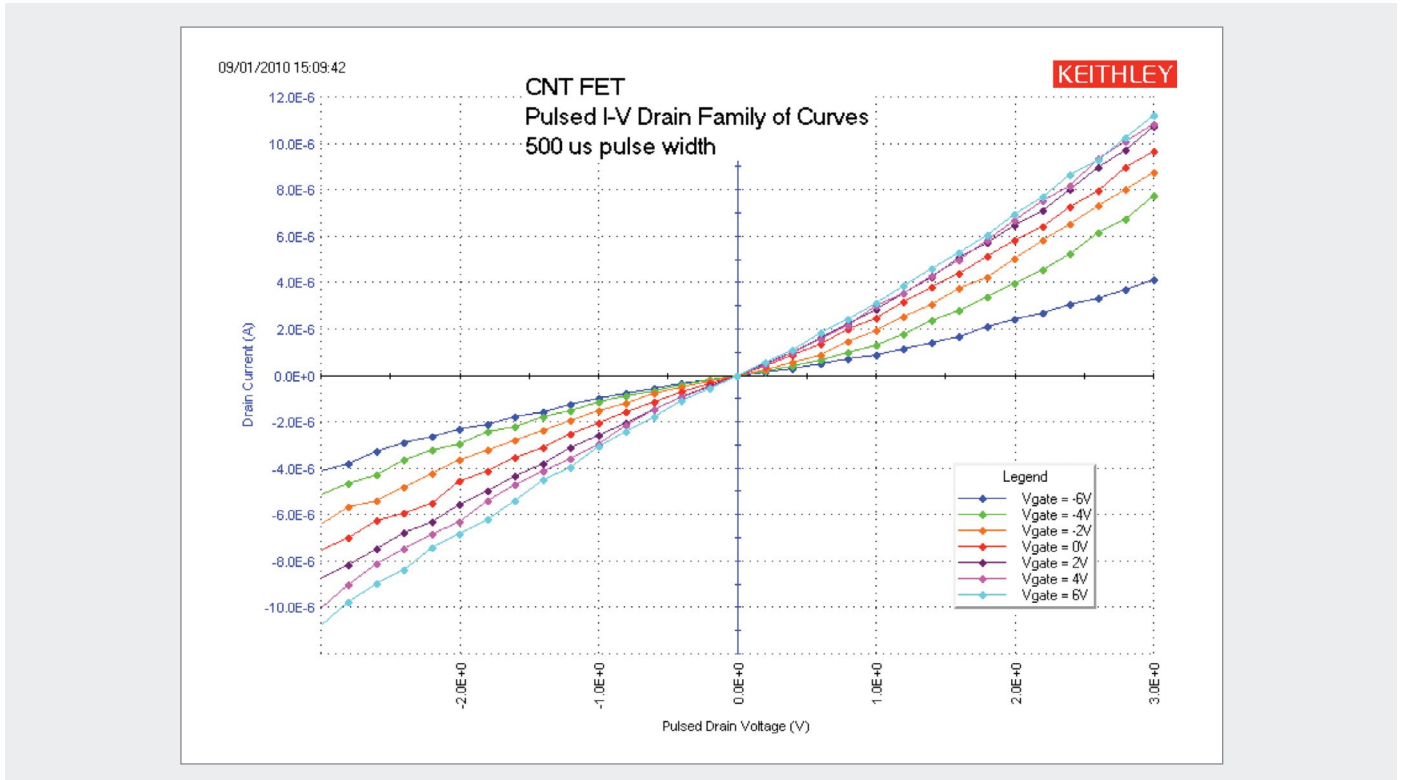

Figure 8. Pulsed I-V drain family of curves of CNT FET.
**Figure 8** illustrates a pulsed I-V drain family of curves taken with the PMU. For this measurement, a pulse width of 500  $\mu$ s was used to generate the curves. However, each PMU channel has the ability to output voltage pulses as short as 70 ns with a rise time as short as 20 ns. The minimum duration of the pulse width will depend on several factors, including the test circuit RC time constant and the magnitude of the test current. Each dot on the curves represents a “spot mean” measurement on the pulsed waveform.
The PMU has five ranges full scale from 800 mA down to 100  $\mu$ A. To measure lower currents, using the 4225-RPM optional Remote Amplifier/Switch is recommended because it adds six measurement ranges, down to 100 nA full scale. The pulsed I-V curves shown in **Figure 8** were taken on the 100  $\mu$ A range. The threshold current was set to 20  $\mu$ A so that the test will stop if the threshold current level is reached.